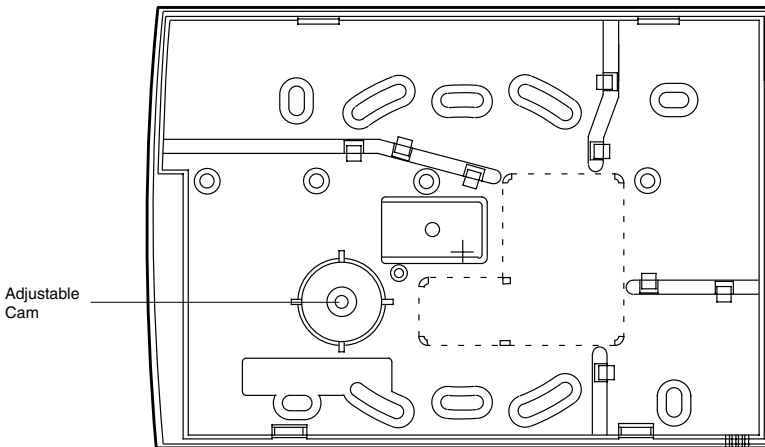

Figure 7. Backplate of the 9930 LCD Keypad
The backplate of the 9930 LCD keypad contains an adjustable cam that you can use to make sure the tamper switch will operate correctly when the keypad is mounted on an uneven surface. Figure 7 shows the backplate and the position of mounting holes.
2. Hold the backplate in place against the wall and mark the position of the centre hole in the adjustable cam (see Figure 7).